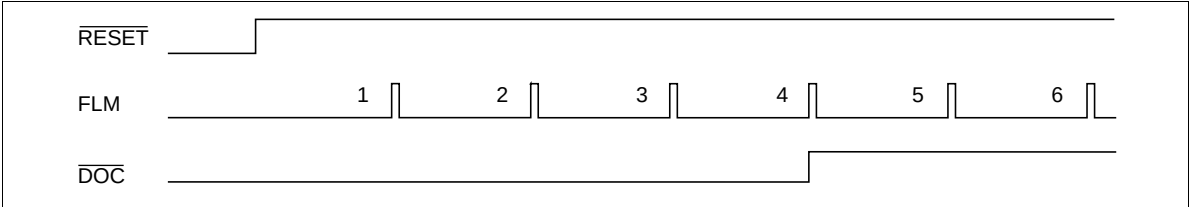

Figure 8 Automatic Display-Off Control Function
3. Auto Display-Off Control: This functions prevents incorrec^t display after reset release. The display is turned off four frames following after reset release. In addition, the display off control signal shown in Figure 8 is output by pin $\overline{\text{DOC}}$. This pin is connected to pin $\overline{\text{DISPOFF}}$ of the HD66520.